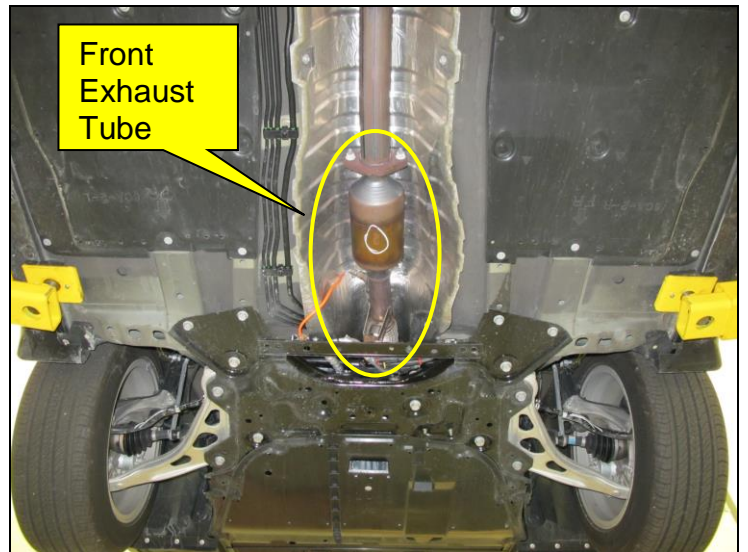

Figure 3
3. Locate front exhaust tube for inspection (Figure 3).